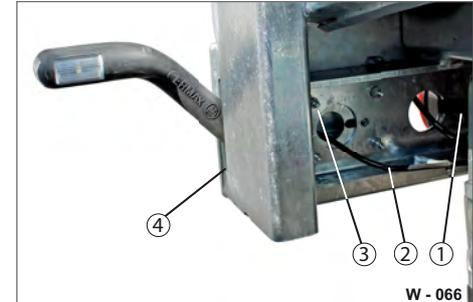

Fig. 64 Tail lighting, mounting
- ▶ Disconnect the corresponding screw connection (Fig. 64/1, 3, 4).
- ▶ Disconnect the corresponding connection cable (Fig. 64/2).